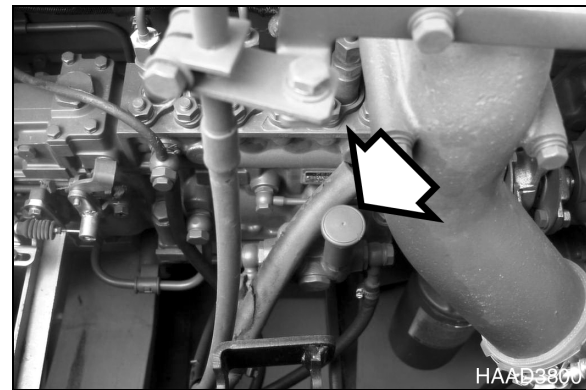

Figure 21
2. Unscrew and pump the hand operated primer pump (Figure 21) by the fuel injection pump. Pump primer until fuel is present at plug hole in fuel filter head.